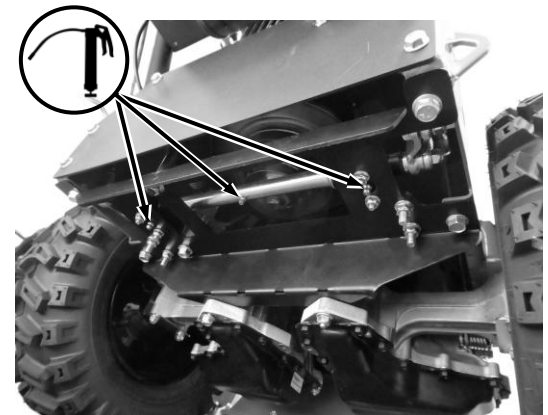

Figure 31
1. Clean the Grease Fitting with a clean Rag (**Figure 31**).